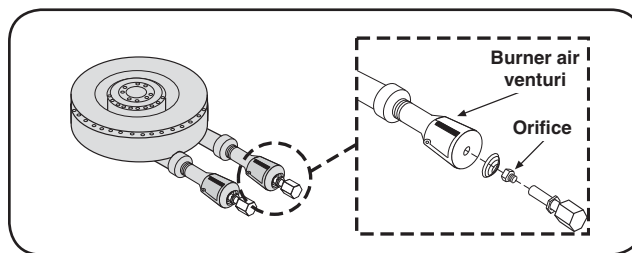

Fig. 16-1 Burner air shutter / orifice orientation
3. After checking orifice size install the air shutter spring and the air shutter over the orifice holder fitting, between the burner and the heat shield, in the order and position shown in Fig. 16-1.